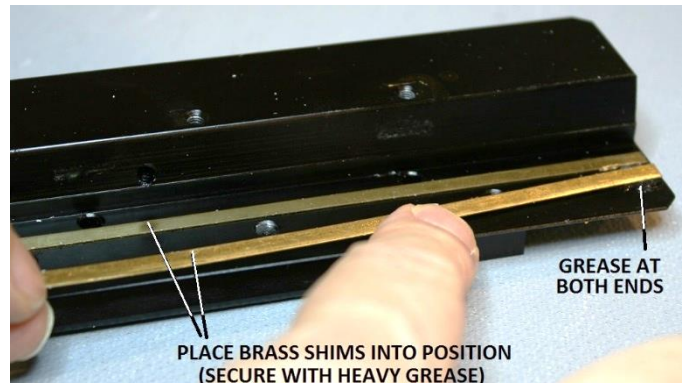

Figure 35 – Reinstall the brass shims onto the focus block
Reinstall the two brass shims onto the focus block, using a small dab of heavy grease (item 6 of Appendix 2) at each end of the shims to hold them in position during the subsequent reassembly steps (see Figure 35).